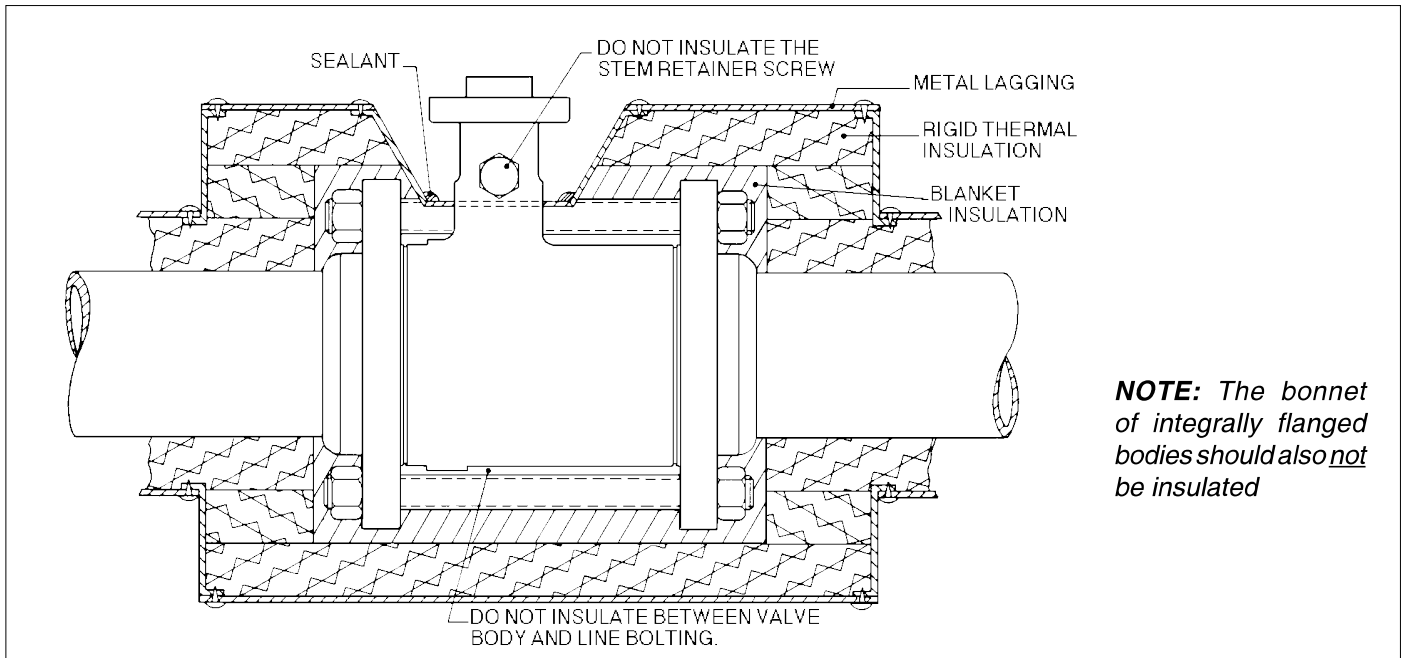

FIGURE 3:
1. Insulate the valve body only. Do not insulate the integral extension bonnet as this could result in premature packing failure in low or high temperature services. See Figure 3.